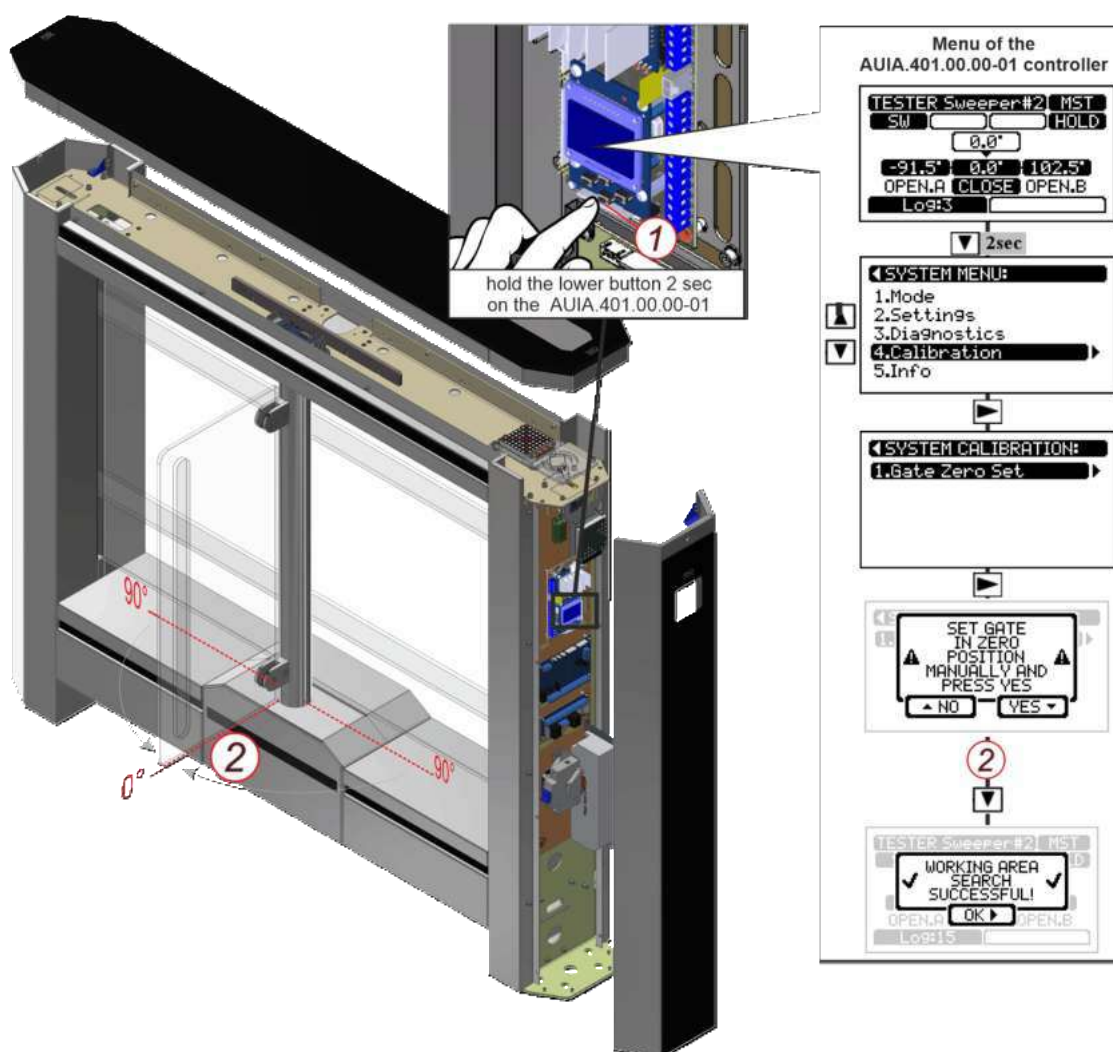

Fig.25 – Adjustment of the leaf zero position using the menu of controller AUIA.401.00.00-01
**Option II (with AUIA.401.00.00-01 fig.25)**
- Run the menu holding for 2 seconds the lower button (1) on the controller **AUIA.401.00.00-01** and choose “**Calibration**”->”**GateZeroSet**” controller. If you request a calibration procedure, the turnstile will go to “**OFF**” mode.
- Set the zero point of both leaves of Master and Slave cabinets manually (CLOSE position (3))
- Confirm the start of working area search procedure by pressing “**YES**” (2) on the AUIA.401.00.00-01 controller display.
- The controller will save the user-set point as zero (**CLOSE** position (2) and automatically determine the minimum and maximum of working area.